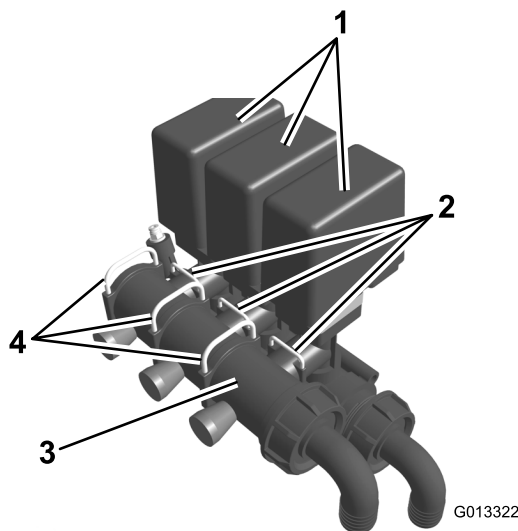

Figure 10
2. Remove all three forks holding the bypass manifold onto the boom valves (Figure 10). Retain all fasteners. Remove the bypass manifold.